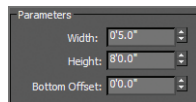

FIGURE 3.9
18. You can use the Parameters section at the bottom of the rollout to change the settings for the wall, as shown in Figure 3.9.